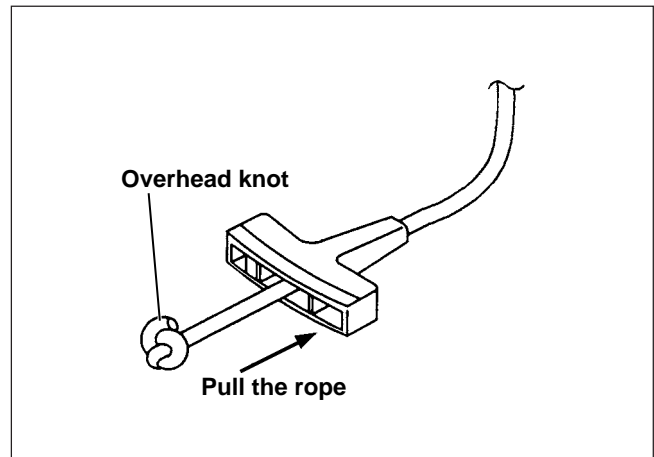
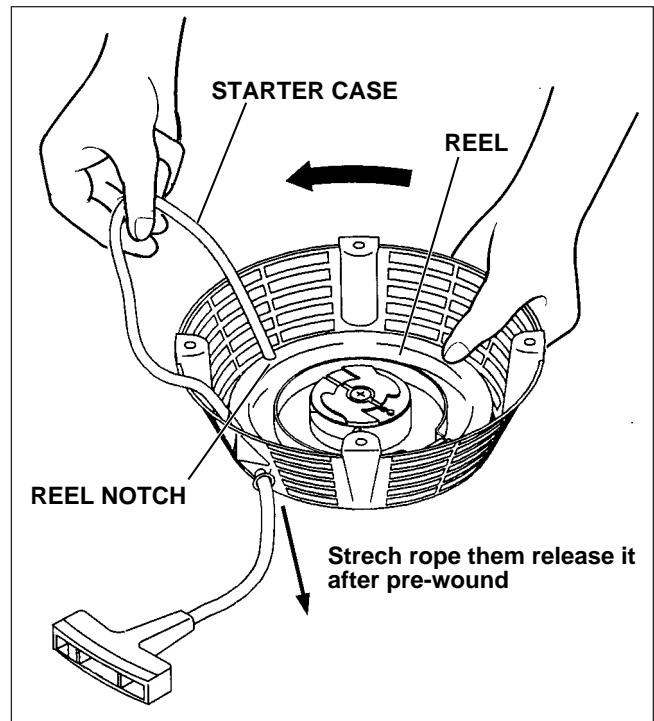

Fig. 9-6
Fig. 9-7
(4) Pass the starter rope through the starter knob and tie the rope end to make a tight overhead knot as shown in Fig. 9-6. Then put the knot into the knob.
(5) Pass the other end of the rope from the starter case to the reel and make a knot as illustrated above, then put the rope end securely into the rope housing in the reel.
(6) Wind the starter rope by 1.5 turns in the arrow direction as shown in Fig.9-7 to let the rope out of the reel through the notch, then install the reel securely in the starter case so that the hook catches inner end of the spring.
(7) Hold the starter rope as shown in the Fig.9-7 and rotate the reel 6 turns by applying the force directly to the reel notch. (pre-winding)